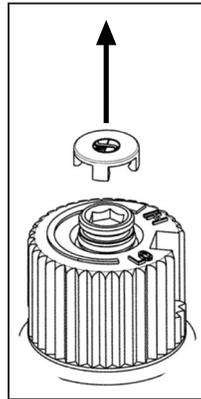

Figure 9:
- a) Remove the black protection cap from the HI/LO knob by hand shown in Figure 9.
- g) Re-attach the black protection cap that was removed in step a (Figure 9).